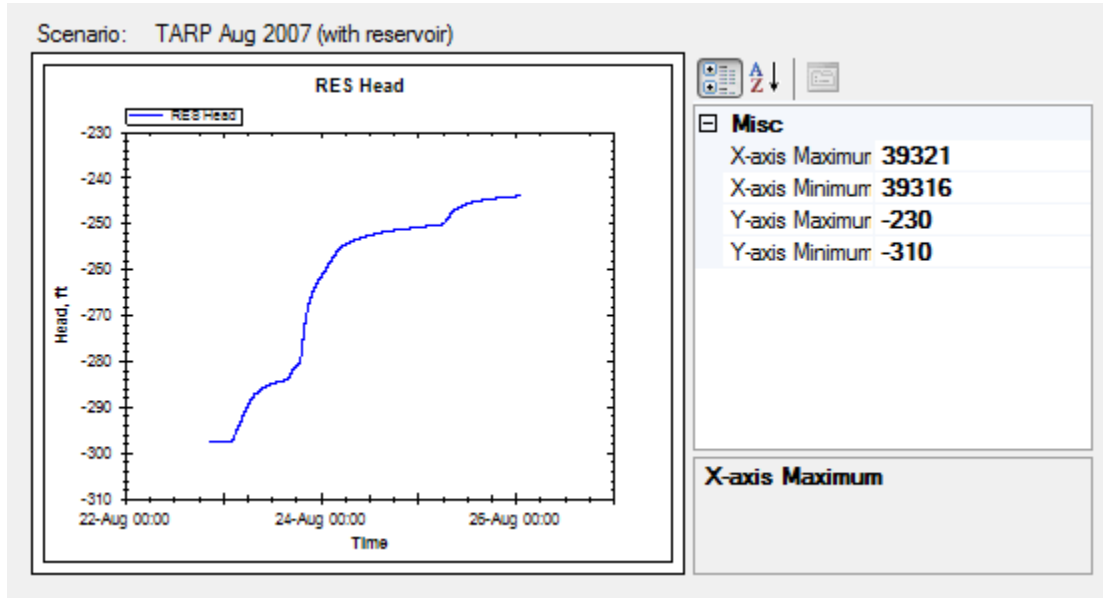

Figure 40: Example of plot options
- Plot Options: shows a property grid allowing the user to change the axes extents. The X-axis is given in ordinal days since 1900 and should be modified with care. An example of this appears in Figure 40.